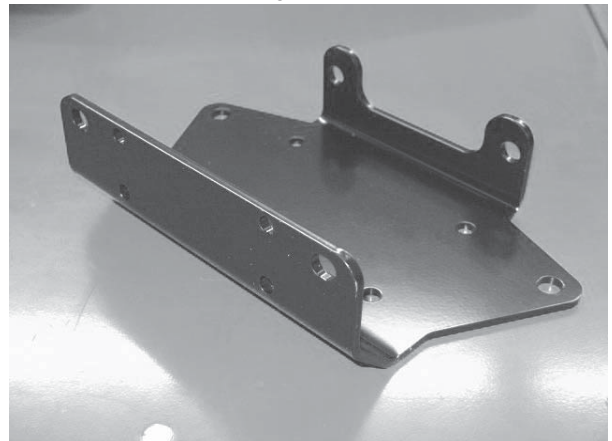

Figure 6
5. Assemble the contactor to the winch mounting plate using the four 1/4-20 x 1 hex bolts, nuts and washers provided in the winch kit, and torque to 10 ft/lbs.(figure 6 & 7)